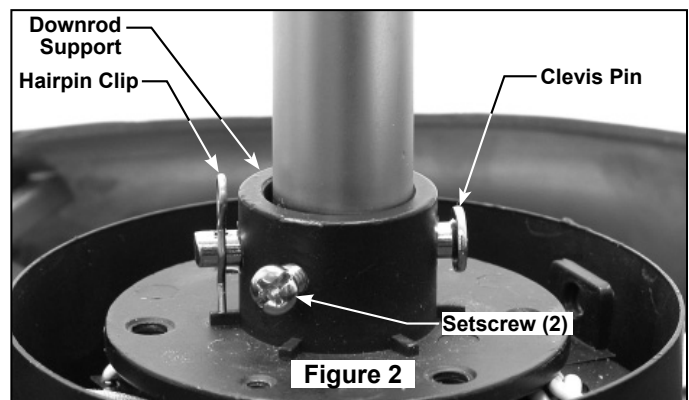

Figure 2
5. Loosen the two setscrews in the Downrod Support. Align the Clevis Pin holes in the Downrod with the holes in the Downrod Support. Install the Clevis Pin and secure with the Hairpin Clip. (Figure 2) Be sure to push the straight leg of the hairpin clip through the hole near the end of the clevis pin until the curved portion of the hairpin clip snaps around the clevis pin. The hairpin clip must be properly installed to prevent the clevis pin from working loose. Pull on the Downrod to make sure the clevis pin is properly installed. (Figure 2)
1. Using the  $\frac{3}{8}$ " x 2" lag bolt and flat washer, attach safety cable to ceiling joist or wood structural member. The lag bolt will pass through the flat washer, safety cable loop, and into the building structure (Figure 2). You will first drill a  $\frac{1}{4}$ " pilot hole into the building structure to prevent splitting or cracking.
**NOTE:** Ceiling support cable must be fastened with flat washer and lag bolt (Figure 2).
- Slide Receiver Unit into the Hanger Bracket (Fig 2).
2. Securely attach the Adapter Plate to the motor shaft by tightening the setscrew with the allen wrench supplied with your fan. (Figure 2)